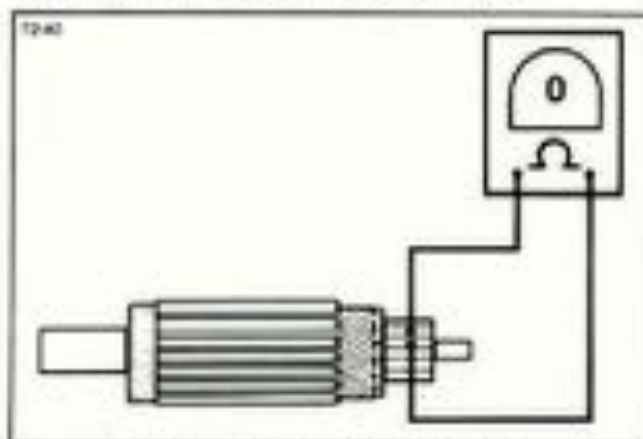

Figure 5-5. Armature Open Test
- See Figure 5-5. Touch one probe of the ohmmeter to a commutator segment and the other probe to the adjoining segment. There should be continuity (zero ohms).